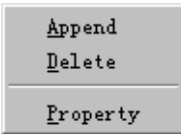
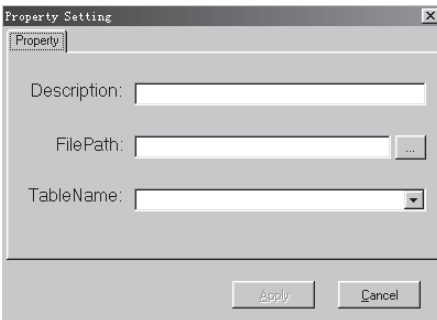
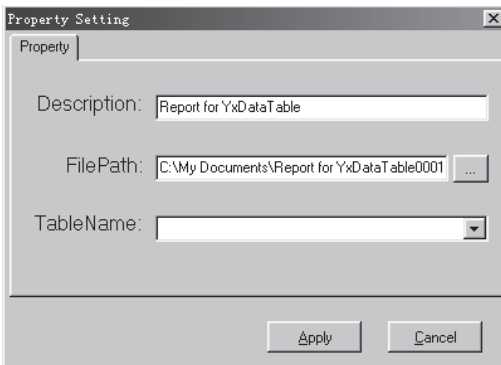

Fig. 8.22
Fig. 8.23
Fig. 8.26
2.1 Add the Designed Report to the Table List. Click the right key of the mouse in the listing table, and the dialogue block as in Fig. 8.22 will be shown. Select the function option **Append** and the dialogue block, as in Fig. 8.23 will be show..
2.2 Delete the listing option from the listing table. First select the **listing option** to be deleted and then click the **right mouse button**. Then the dialogue block, as in Fig. 8.22 , will be shown. Select the **Delete** function option.
2.3 Modify the properties of the listing option. First select the **listing option** to be modified and then click the **right mouse button**. Then the dialogue block, as in Fig. 8.23, will be shown. Select the **Property function** option, then the **dialogue block**, as in Fig. 8.26, will be shown. In the dialogue block, modify the Description and FilePath, and then click **“Apply”**. Thus the modification is completed.